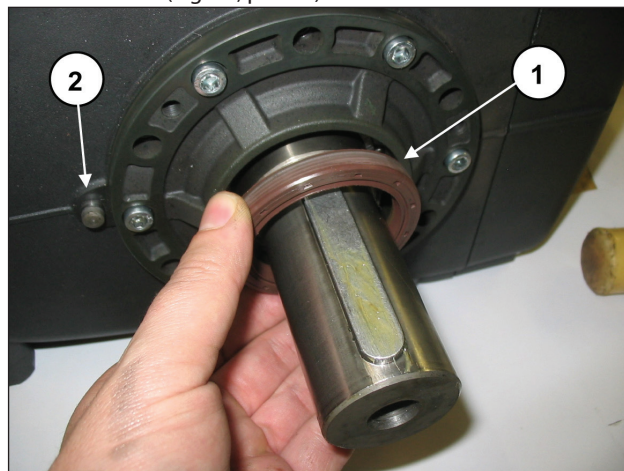

Fig. 33
To modify the version, fitting the reduction unit where it has not been contemplated, it is necessary to remove the shaft oil seal (Fig. 33, pos. ①) and insert the Ø8 gearbox reference pin on the casing (Fig. 33, pos. ②).
Then proceed with the operations specified in par. 2.1.4. When modifying the version, removing the reduction unit where it has been contemplated, you need to insert the shaft oil seal ring in its seat on the side cover using the tool code 27904800 (Fig. 33, pos. ①).